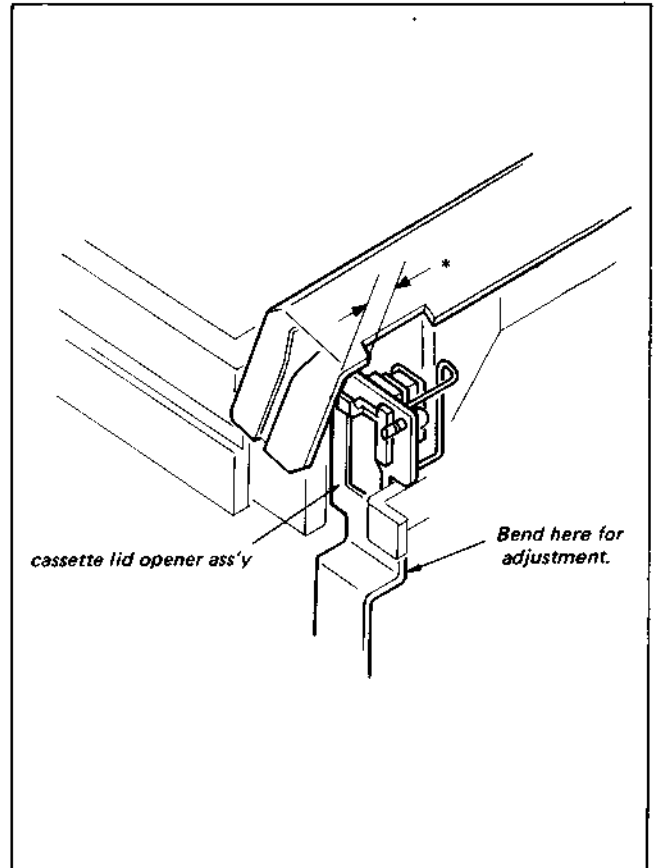

Fig. 3-28. Position adjustment of cassette lid opener metal (2)
- (i) Bend the lower section of the cassette lid opener bracket so that the cassette lid opener bracket positions itself almost at the center of the space marked by asterisk (\*) shown in Fig. 3-28, when the cassette is placed on the four position determining posts.